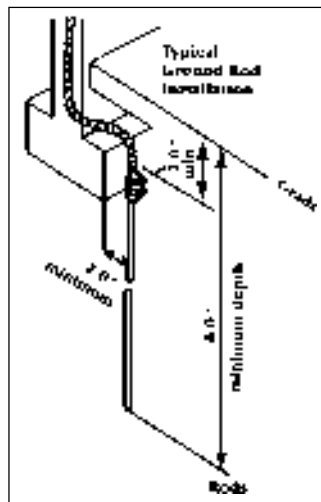

Figure 4
1. Clamp each conductor cable to a copper-clad or galvanized-steel rod. The rods usually are eight feet long. However, 10-foot rods would be better if available and should be driven completely into the ground. Make the connection as shown in Figure 4. Below ground this would eliminate a trip hazard for humans and animals. Metal grounding rods are a minimum of one-half-inch diameter. A diameter of five-eighths-inch is better. At least two ground connections are needed for every system. They should be spaced as far apart as possible, preferably at opposite corners of the building. They should extend below and away from the building to prevent damage to the walls from a lightning discharge. Ground rods should be driven at least two feet away from the building footing (Figure 4). Aluminum conductor cable should be connected to copper or steel ground connections with specially-designed bi-metal clamps so the connections will not corrode to render the system inoperative. The conductor-to-ground joints for aluminum must be made at least one foot above ground level. Bare aluminum will disintegrate rapidly to aluminum hydroxide when in contact with soil.